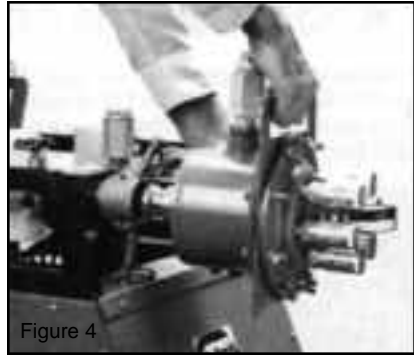

Figure 4
3. If the V60 extension hose is not required, assemble the pod(s) directly to the pump's manifold. The pods should be connected so that the handle and pressure relief valve are on top of the pod (See next page Figure 4).